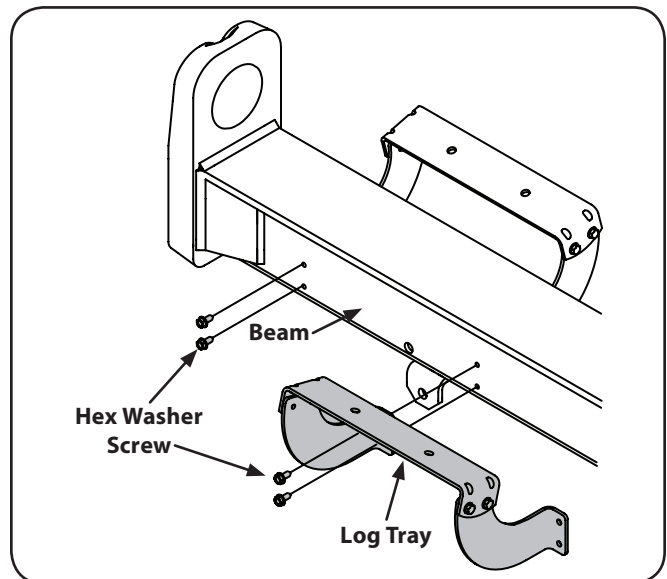

Figure 3-5
15. Disconnect the log tray from the beam on the side of the control valve by removing the two hex washer screws that secure it to the beam weld brackets and the two hex washer screws in the beam. See Figure 3-5.